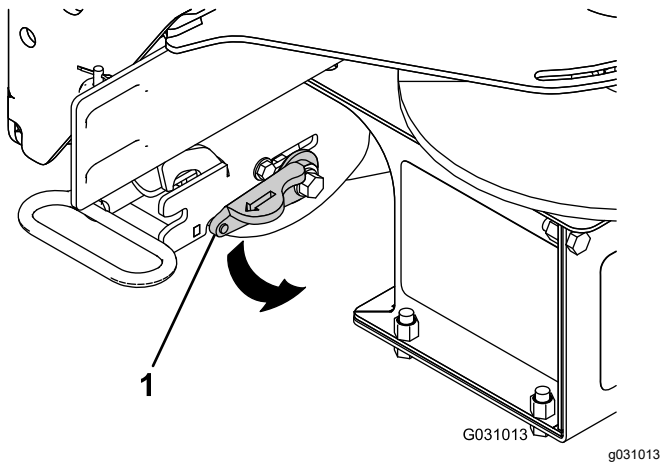

Figure 11
- Rotate the locking lever on the RT3 attachment to the LOCK position (Figure 11).